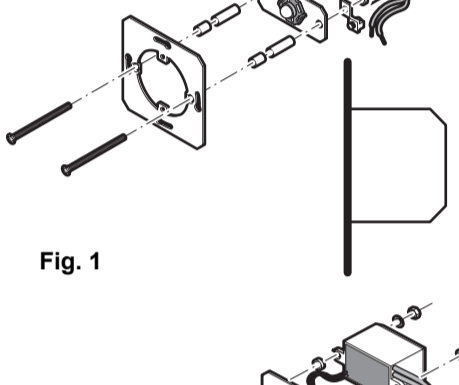

Fig. 1
- For a deep circuit connection box install all four distance sleeves (Fig. 1).